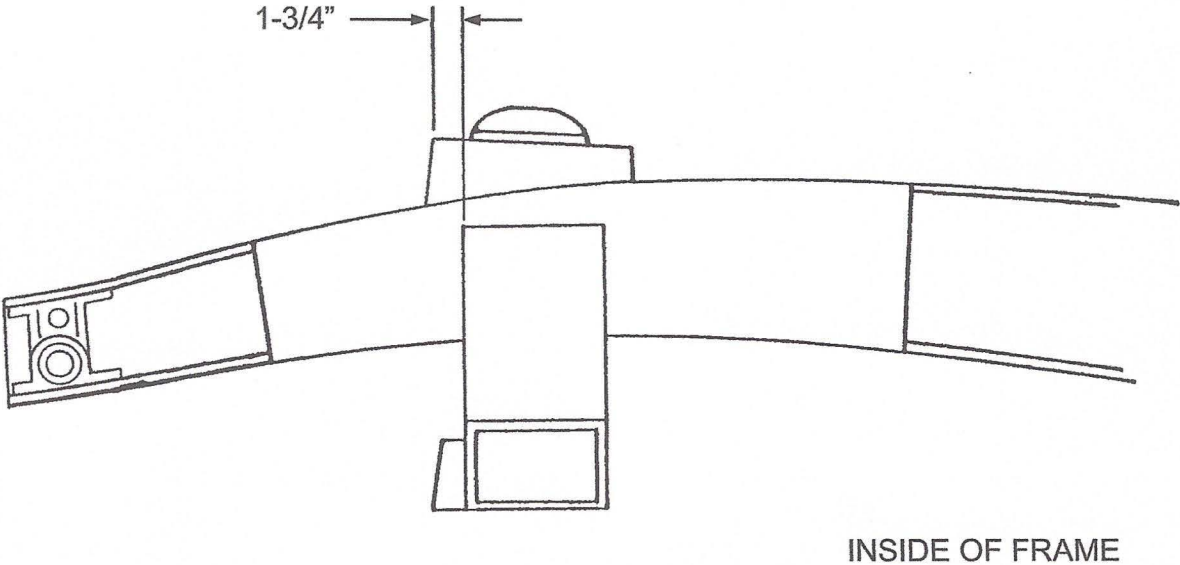

Figure 3
6. Next are the spring towers. They sit on top of the frame rails, and are located 1-3/4" forward of the front of the crossmember, as shown in Figure 3. The higher side of the spring towers goes toward the front. Seat them fully against the frame, grind to fit the tops of the frame rails, clamp in place, then tack weld.